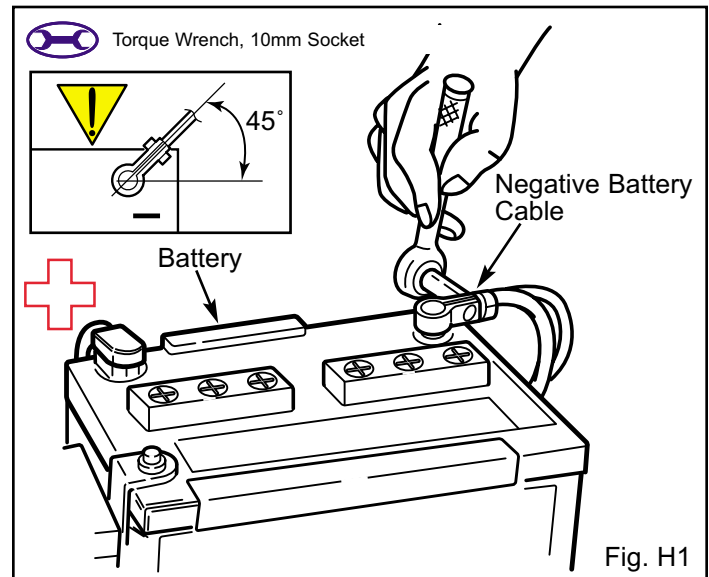

Fig. H1
3. Reconnect the vehicle's negative battery cable. (Fig. H1)